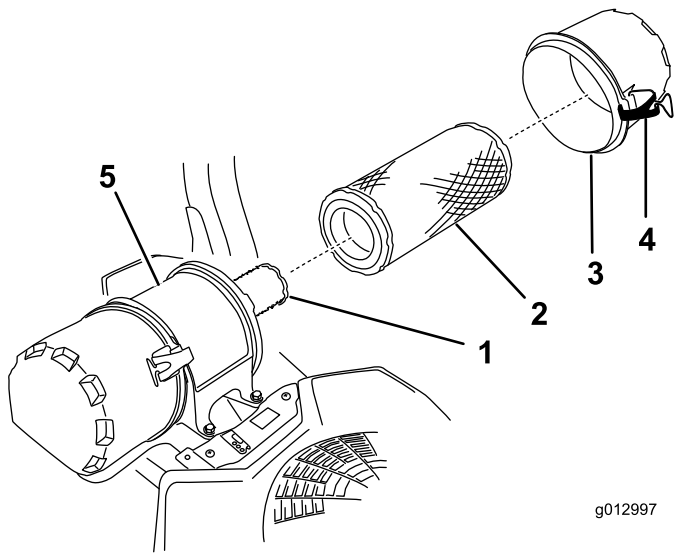

Figure 64
6. Release the latches on the air cleaner and pull the air-cleaner cover off the air-cleaner body (Figure 64).
8. Gently slide the primary filter out of the air-cleaner body (Figure 64).
- If you are replacing the inner filter, carefully slide it into the filter body (Figure 64).
- Carefully slide the primary filter over the safety filter (Figure 64).
- Install the air-cleaner cover and secure the latches (Figure 64).